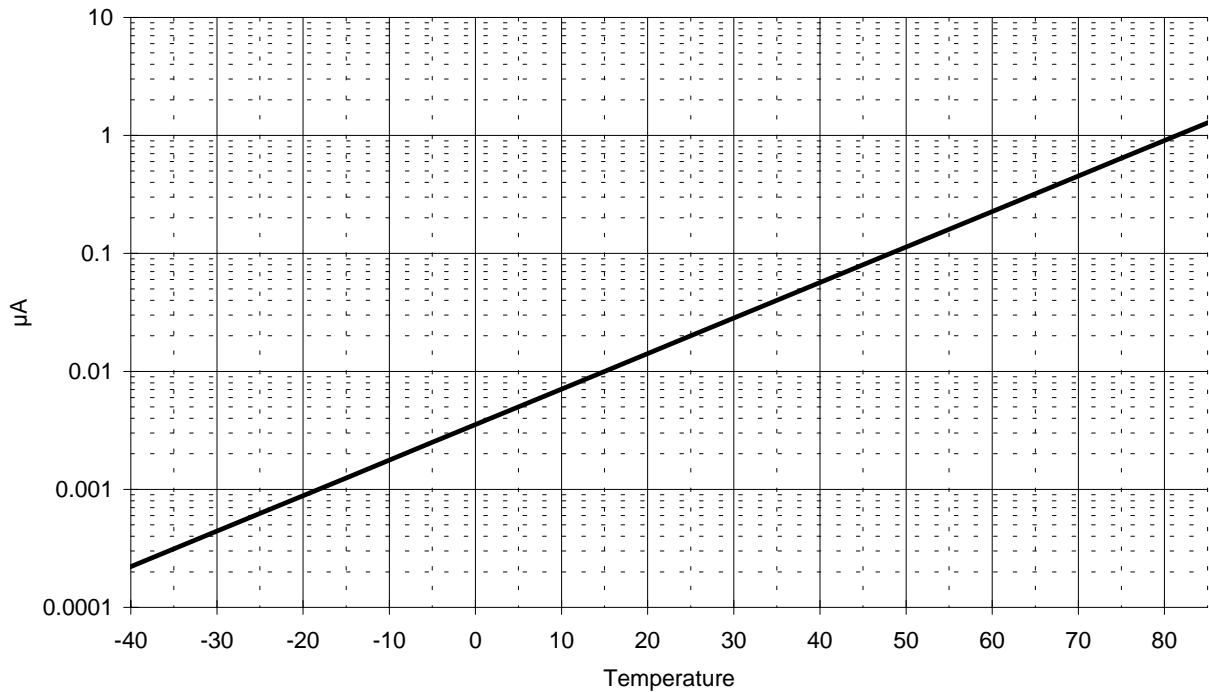

Figure 17: Typical 'Zero-Power' I_{DD} vs. Temperature ($V_{DD} = 5.0V$)
2. RD, MODE, RXCLK inputs at V_{SS} , ZP input at V_{DD} . See Figure 17.